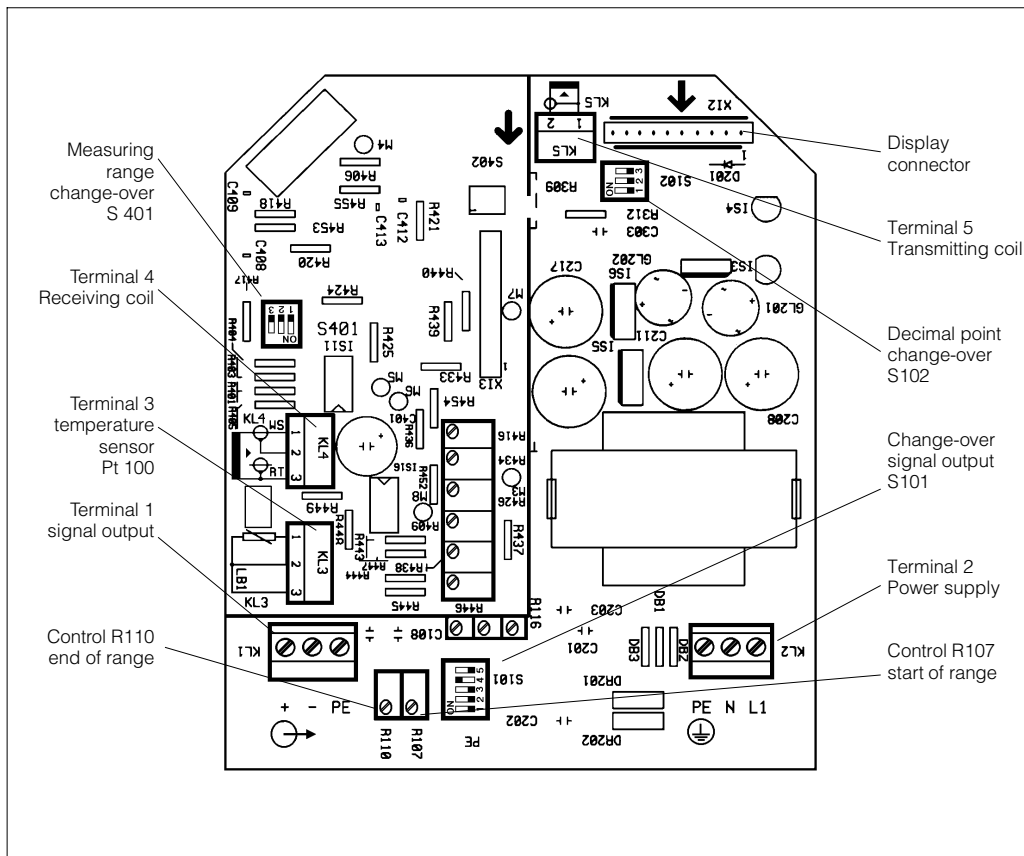

Fig. 6.2: Inside view Smartec CLD 130 - componentry with terminals and plugs for measuring range change-over
The signal output can be switched to 0 ... 20 mA or 4 ... 20 mA using switch S 101 (see fig. 6.2).
- Set 0 or 4 mA with control R 107 (see fig. 6.2).
- Set 20 mA with control R 110 (see fig. 6.2).